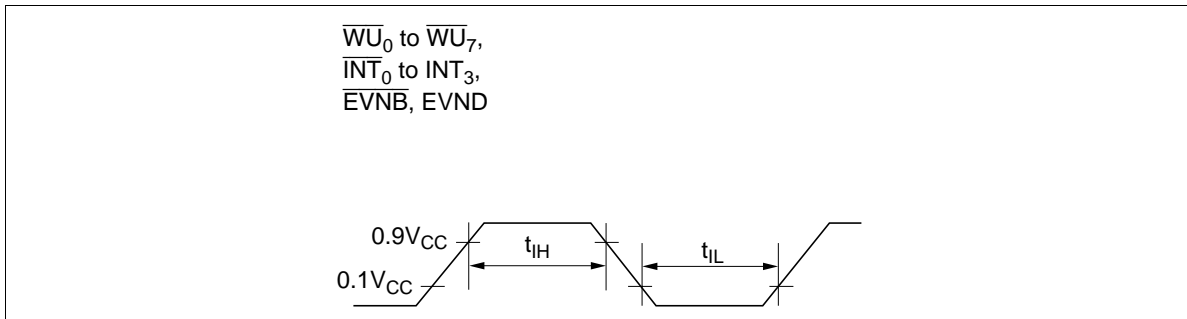

Figure 89 Interrupt Timing
4. Refer to figure 89. The  $t_{cyc}$  unit applies when the MCU is in standby or active mode. The  $t_{subcyc}$  unit applies when the MCU is in watch or subactive mode.